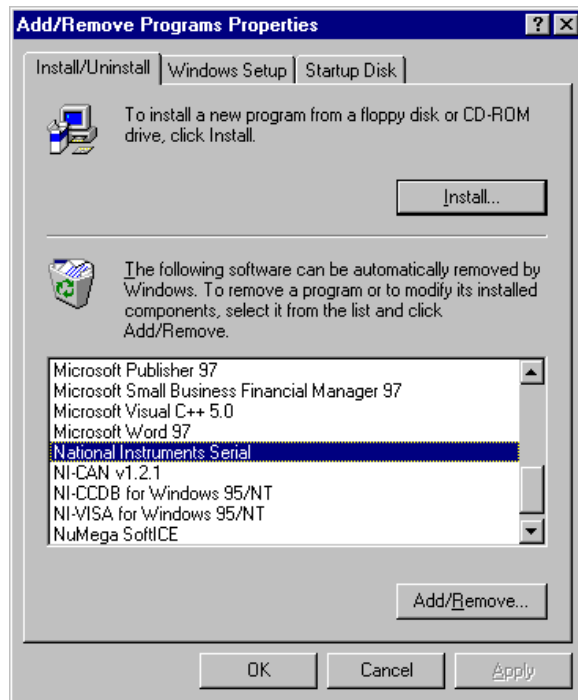

Figure B-2. Add/Remove Programs Properties Dialog Box
2. Double-click on the **Add/Remove Programs** icon in the Control Panel to launch the Add/Remove Programs applet. A dialog box similar to the one in Figure B-2 appears. This dialog box lists the software available for removal.